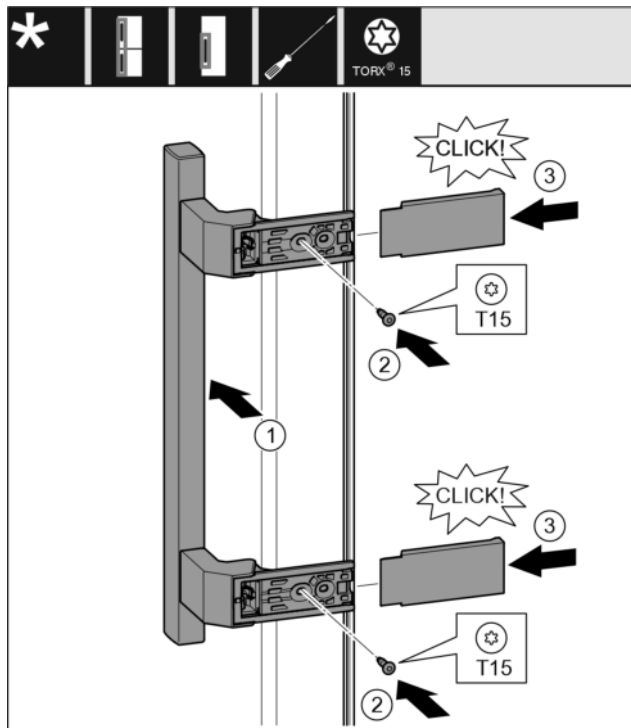

Fig. 17
- ▶ Attach the handle on the opposite side. Fig. 17 (1)
- ▶ Tighten screws with screwdriver T15. Fig. 17 (2)
- ▶ Place the covers on the side and push them on. Fig. 17 (3)